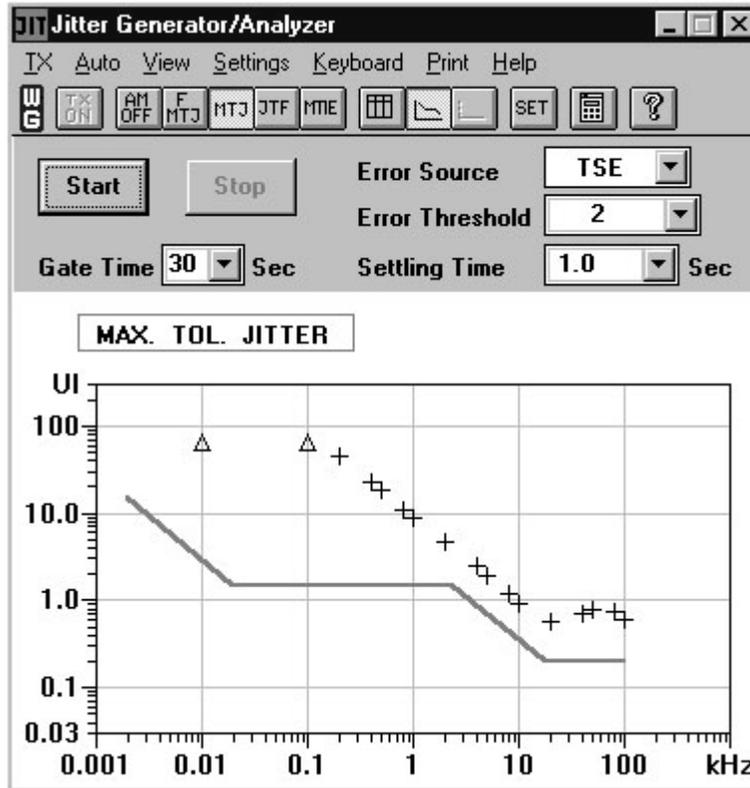

Figure 11 Jitter Tolerance for E1 75ohm
The jitter tolerance is measured by adding jitter to the receiver inputs until there is a specified number of bit errors within a given time interval (known as Gate Time). For T1, the frequency (rate of deviation) added to the receiver inputs is from 10Hz to 40kHz. For E1, the frequency is from 10Hz to 100kHz. Figure 11 is a plot of the jitter tolerance with the jitter attenuator (JA) disabled. For optimum performance, the JA should be configured in the receive path of the XRT83SL38 (see the XRT83SL38 datasheet for more information).